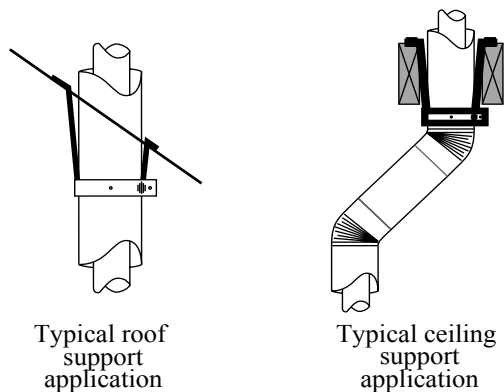
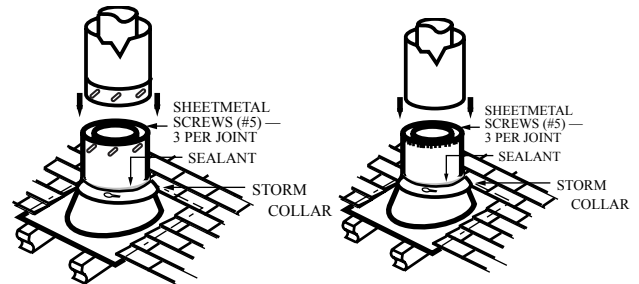

Fig. 38
Fig. 39
- 7DVCS must be used to support offsets. (Fig. 38) This application will require that you first determine the roof pitch and use the appropriate starter kit. (See Venting Components List)
7. Install roof support (Fig. 38) and roof flashing making sure upper flange of flashing is below the shingles. Fig. 39.
8. Install appropriate pipe sections until the venting is above the flashing. (See Fig. 39).
The enlarged ends of the vent section always face downward, Fig. 39.